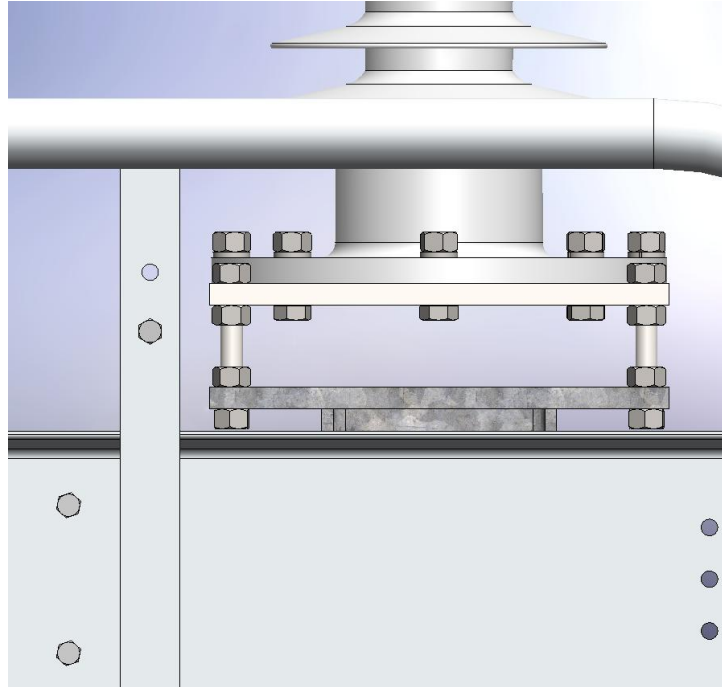

Figure 12: Gap insulator jacking screws
- 12.4. Blade should enter jaw in the center. Adjust blade entrance into jaw using jacking bolts under gap insulator. See **Figure 12**.